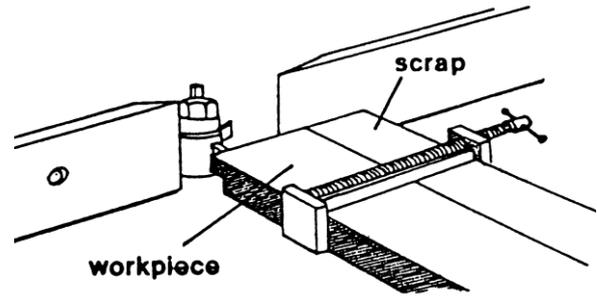

Fig. 28
1. Use the hold-ins and hold-downs as shown in Fig.28 to firmly hold the workpiece down and against the fence. If workpiece is too wide for the hold-ins to be used, clamp a scrap board to the table to substitute for the hold-ins.
When end shaping narrow stock, it is important that at least one half of the workpiece end be in contact with either the infeed or outfeed fence. Use a guide similar to the one shown in Fig.28 which tightly clamps the scrap piece to the workpiece and provides the necessary width.